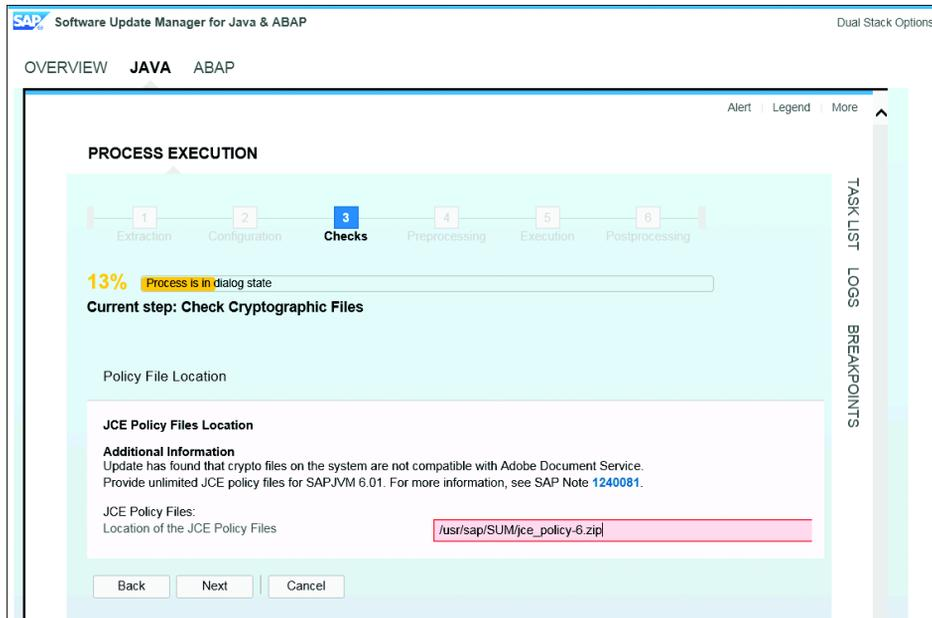

Figure 59 Enter Location of JCE Policy Files
5. Enter the directory in SUM, including the file name and select NEXT (see Figure 59). SUM will extract the files directly from the ZIP file.